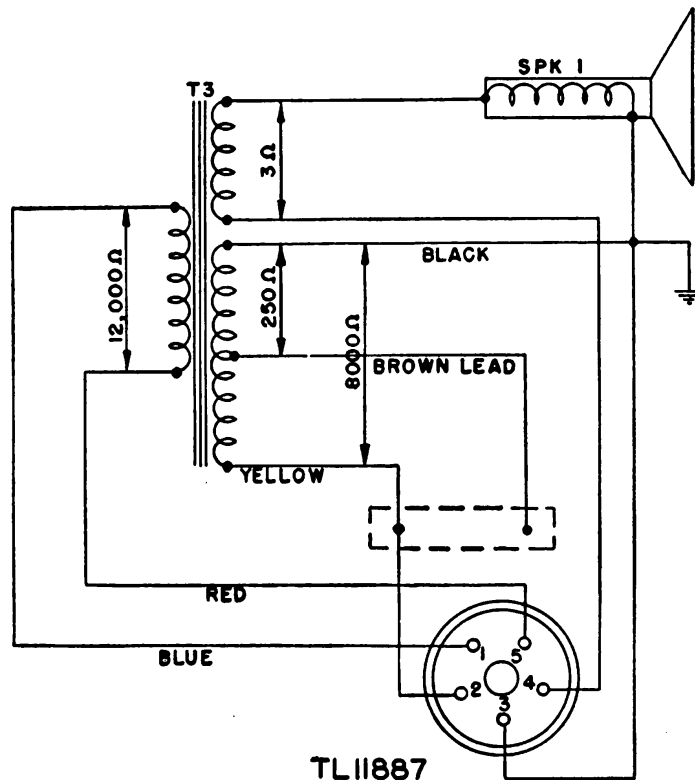

FIGURE 6.1.—Transformer T₃ in Radio Set SCR-593-C, showing 250-ohm audio output tap.
l. Radio Receiver BC-728-A.—Radio Receiver BC-728-A * * * front panel. On Radio Set SCR-593-C, produced on Order 31188-Phila-43, an additional 250-ohm tap has been provided on the 8,000-ohm secondary winding of transformer T₃, which will allow the use of a low impedance headset by changing the impedance to which the set is connected. (See fig. 6.1.) A tag has been placed on the exterior of the case of these sets, with the impedance to which the set is connected marked on it. When the impedance is changed by using the 8,000-ohm tap, this nameplate must be reversed. The loudspeaker does not operate when a headset is plugged in.